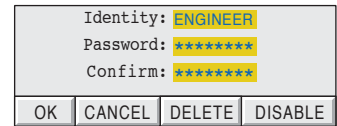

Figure 4.4.3b ID Edit page
- 2 Touch the word ENGINEER in the Identity field of the resulting dialogue box (figure 4.4.3b).